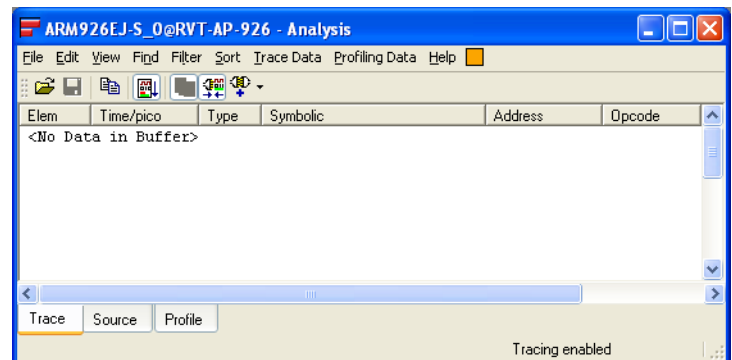

Figure 2-5 Analysis window
Select **Analysis Window** from the **View** menu of the Code window to display the Analysis window. Figure 2-5 shows an example:
- a. Select **Analysis Window** from the **View** menu to display the Analysis window. Figure 2-5 on page 2-8 shows an example.